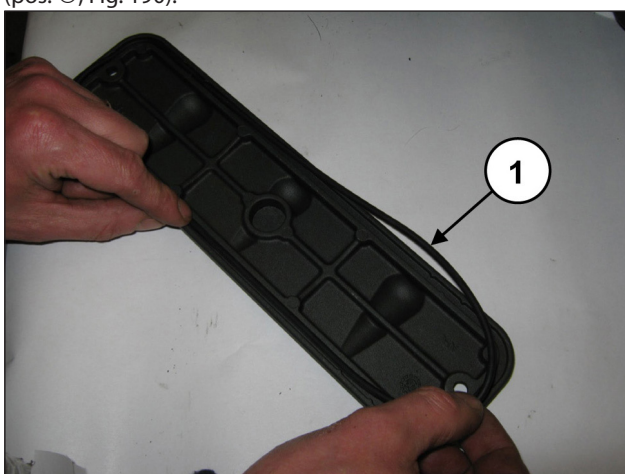
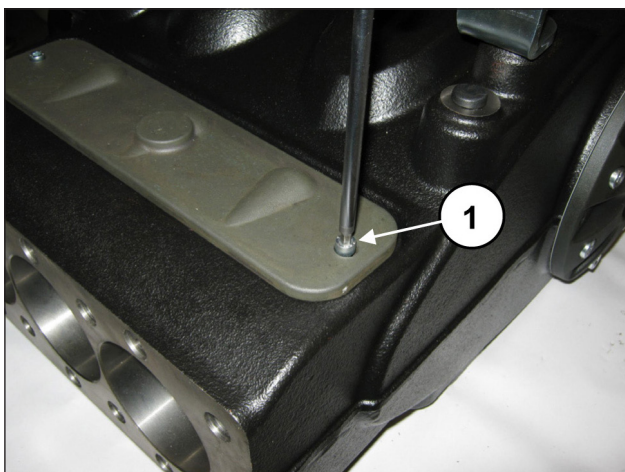

Fig. 189
Fig. 190
Insert the O-ring on the inspection covers (pos. ①, Fig. 189) and assemble the covers with the use of 2+2 M6x14 screws (pos. ①, Fig. 190).